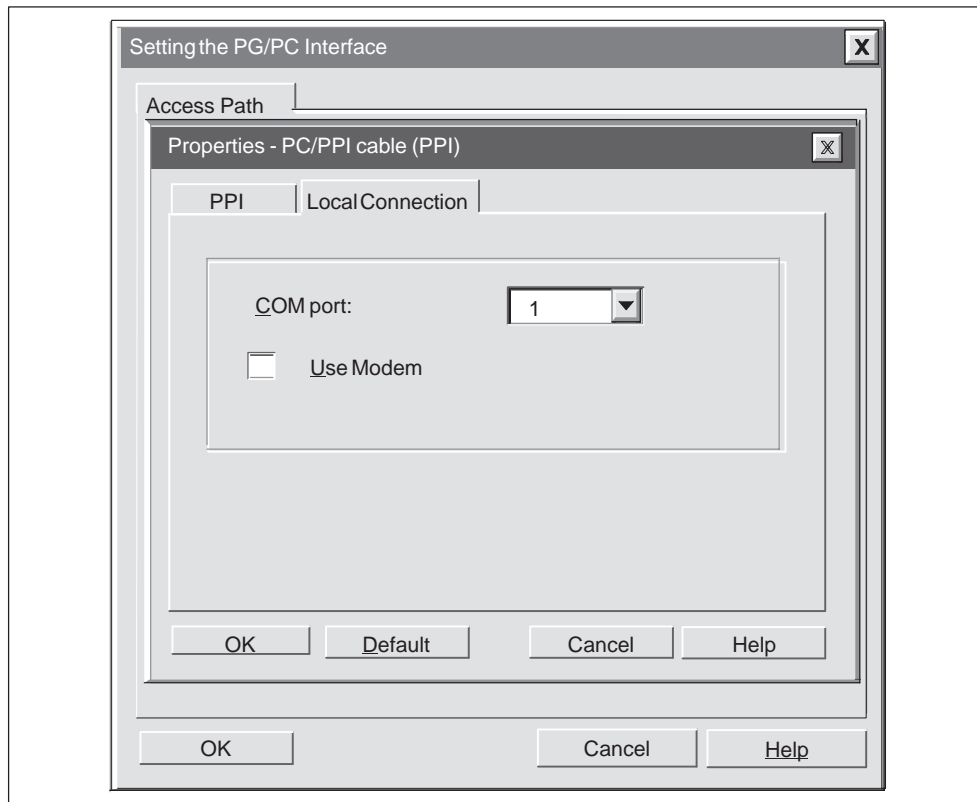

Figure 7-8 Properties - PC/PPI Cable (PPI) Dialog, Local Connection Tab
6. Click the Local Connection tab. See Figure 7-8.
3. Click the "Properties" button. The PC/PPI cable(PPI) properties sheet for your CPU and modem appears. See Figure 7-8.
5. In the COM Port area, ensure that the Use Modem box contains a check mark. If the box is empty, select it to insert a check mark. See Figure 7-8.